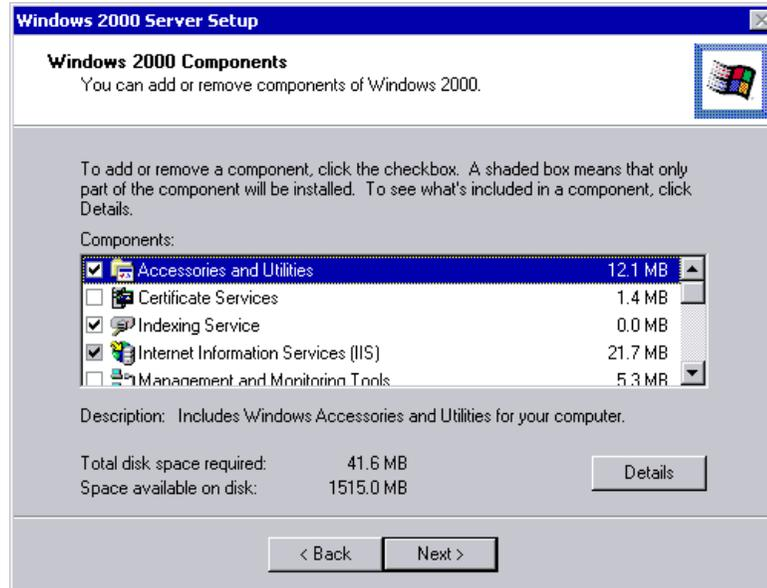

Figure 57. Selecting components
13. In Figure 57, you get to choose which components you want installed: